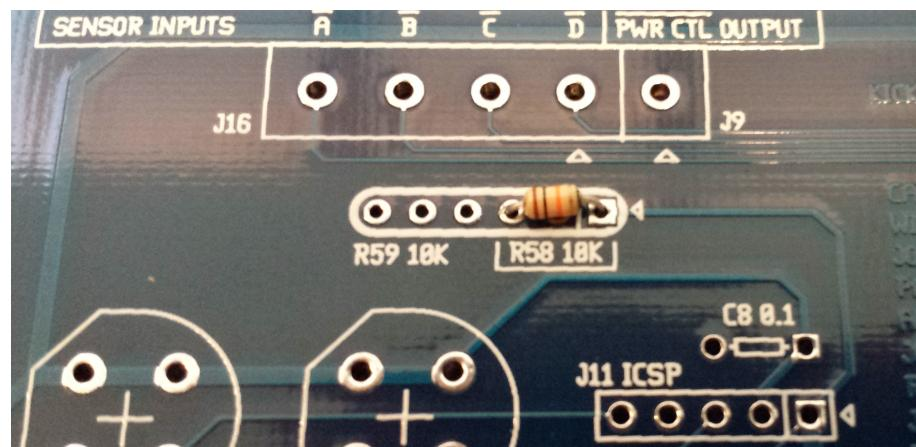

Figure 6.1: R58 Placement
1. Install a 10K resistor at R58. Note that it goes into the square hole (marked with a triangle on the board) and the second hole to the left of it (there will be one empty hole under the resistor, between the leads). See Figure 6.1 for details. Solder into place.
4. Repeat Step 3 to install (2) green LEDs at D8 and D10.
5. Repeat Step 3 to install (2) yellow LEDs at D9 and D11.